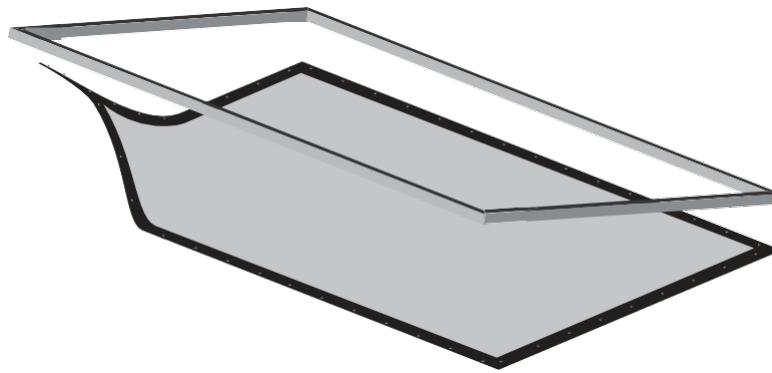

Figure 10: Attaching Top Corner Snaps
5. Starting with the snaps on the top corners and then horizontally along the top while lifting the frame with one hand, snap the screen into the frame. Gently allow the screen to stretch onto the snaps. Do not jerk, wrinkle, or crease the screen material, as it can be damaged (see Figure 10).